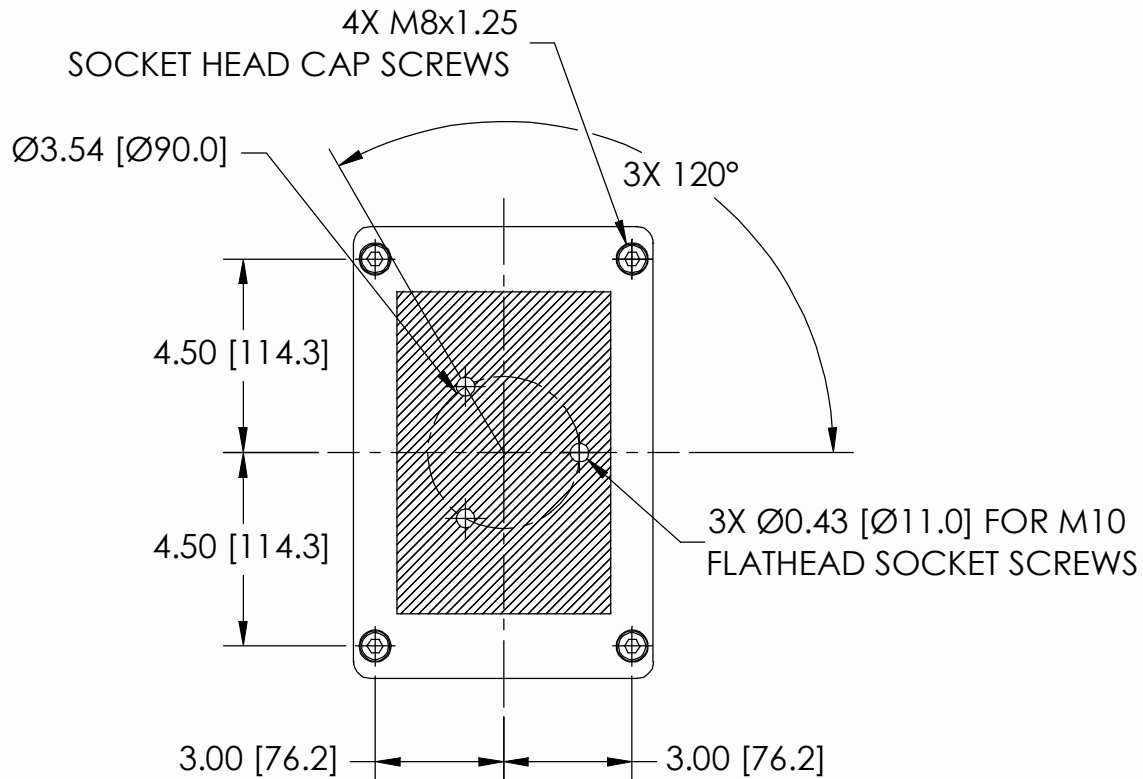

Figure 2. AFD90-2 Mounting Bracket
The *AFD90-2* is supplied with a standard Mounting Bracket shown in Figure 2. A minimum of (3) three holes should be utilized to secure the Mounting Bracket to the robot mounting flange.
If additional holes are required, it must first be removed from the device before drilling. Four (4) M10x1.5 Socket Head Cap Screws are used to attach the Mounting Bracket to the *90 Series* force device. Once the Mounting Bracket is removed, mounting holes may be placed anywhere within the crosshatched area shown in Figure 2. *PushCorp, Inc.* can supply engineering support to determine the mounting hole locations at no cost.